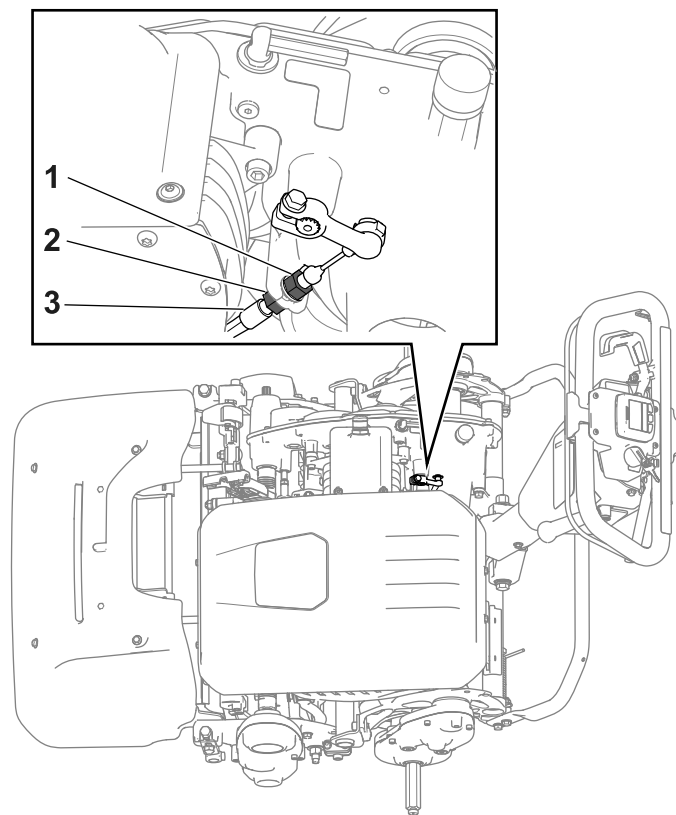

Figure 27
- To increase the cable tension, loosen the front-cable jam nut and tighten the rear jam nut (Figure 27). Repeat step 2 and adjust the tension if necessary.
nut (Figure 27). Repeat step 2 and adjust the tension if necessary.